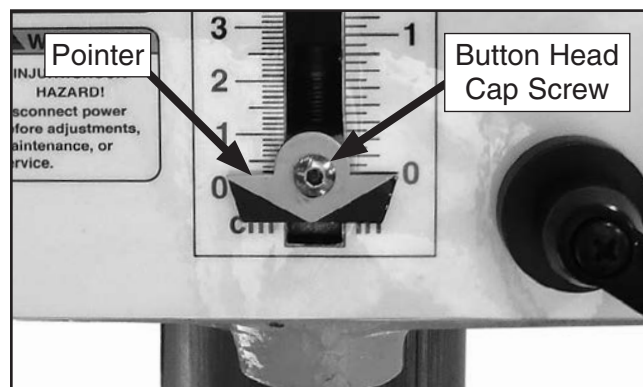

Figure 46. Calibrating depth stop.
1. Lower depth stop (see **Figure 46**) until pointer reaches bottom of its travel.
2. Loosen button head cap screw shown in **Figure 46**, and position pointer so its upper edge aligns with zero, then re-tighten screw.